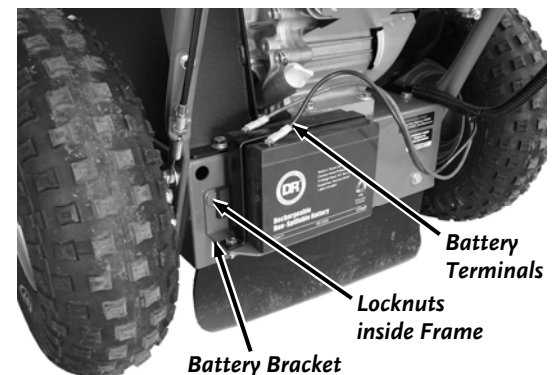

Figure 42
1. For Electric Start machines you will first need to disconnect the Battery Terminals and remove the Battery Bracket by removing the two Locknuts from the Bracket Studs with a 1/2" Wrench (leave Battery attached to Bracket) (**Figure 42**).